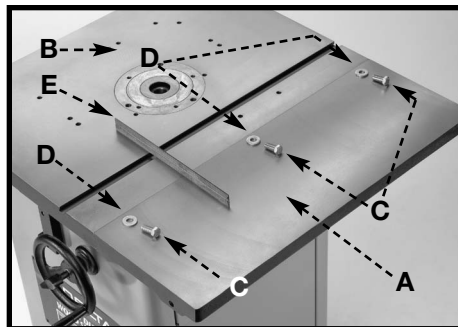

Fig. 3
Attach the extension wing (A) Fig. 3 to shaper table (B) using three 7/16-20 x 1" hex head screws (C) and flat washers (D). Use a straight edge (E) Fig. 3 to level the extension wing with the shaper table before tightening the three screws (C). Attach and level the remaining extension wing.